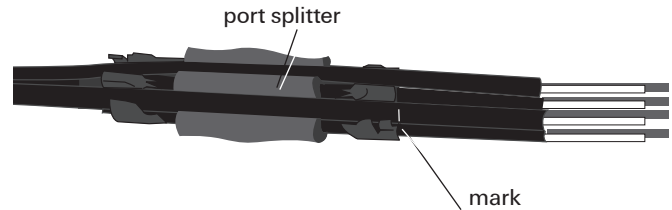

Figure 2
3. Align the end of the port splitter with the 1.75" mark. (Figure 2)
4. If required, insert other cable(s) in any slot of the port splitter. (Figure 2) Align the sheath ring cuts of all cables.